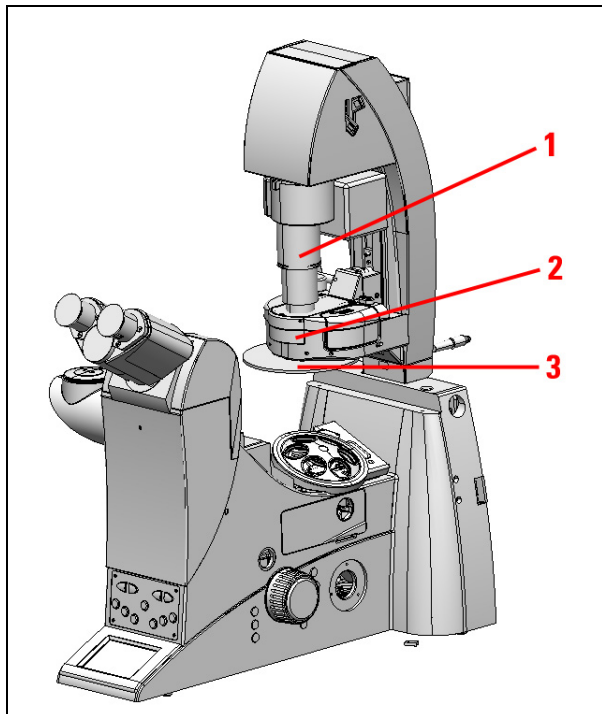

Figure 41: Inverted microscope
The laser protection tube and the laser protection shield are used in inverted microscopes for protection from laser radiation (see **Figure 41**).
When reordering a condenser base (see **Figure 41, item 2**), be sure to note that the condenser base is supplied without a laser protection shield (see **Figure 41, item 3**).
The existing laser protection shield (see **Figure 41, item 3**) must always be reinstalled. Please consult the microscope's user manual provided.